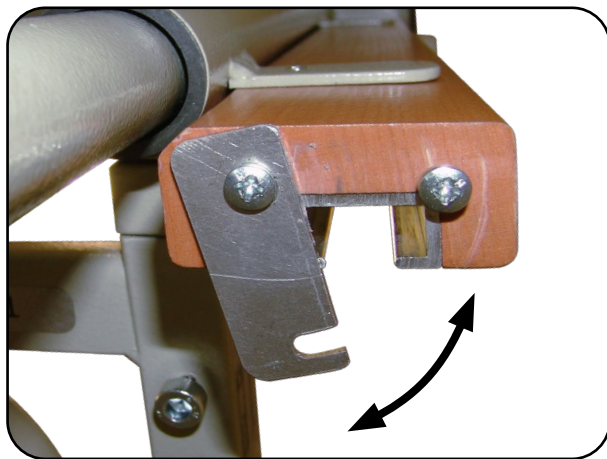

Fig. 6.4.01 – Aluminium stopper on wooden post
2. Unlock the aluminium stoppers which are located on the bottom end of the wooden posts (Fig. 6.4.01).
5. Slide the assembled side bar sliders into the aluminium rail (Fig. 6.4.03) and lock the aluminium stopper in place (Fig. 6.4.01).
10. Tighten the screws on the four aluminium stoppers to prevent accidental opening during use (Fig. 6.4.01).